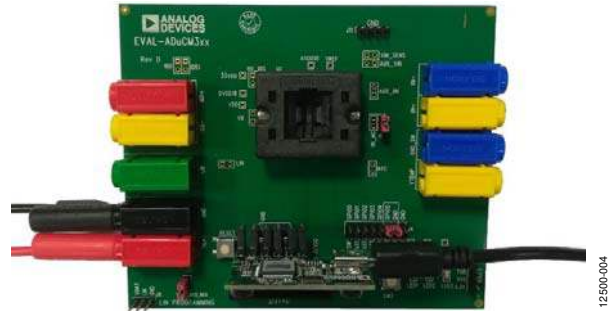

Figure 4. Mini-Link Debugger/Programmer Connection
2. Connect the debugger/programmer, noting the correct orientation as shown in Figure 4.
J2	J2 is the SWD programming interface. See the orientation shown in Figure 4.